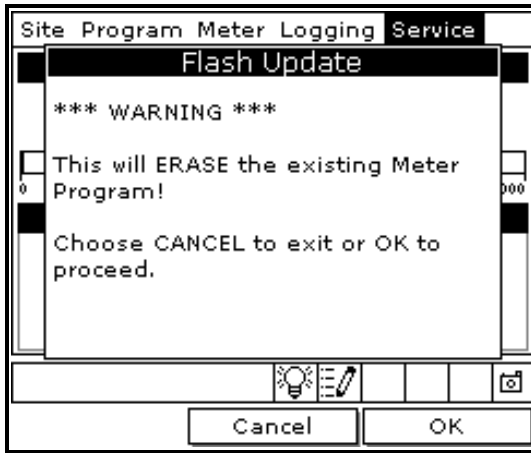

Figure 70: Flash Update Window
3. Use the arrow keys to scroll to **Flash Update** and press [ENTER]. Screen appears similar to Figure 70 on page 148.
4. Press [F3] (OK) to confirm that you wish to erase the program.
5. The meter asks for confirmation. Press [F3] (OK) to continue with the update.